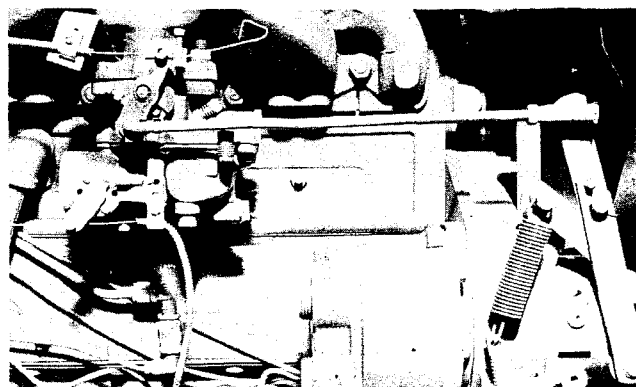

Figure 87 — Governor Linkage
- 3 — The hinged lever governor eliminates the need for a spring loaded throttle lever on the carburetor. As the carburetor lever is forced to idle position by the speed control lever, this in turn pivots the top half of the governor arm forward, slowing the engine to idle. (See Figure 87.)